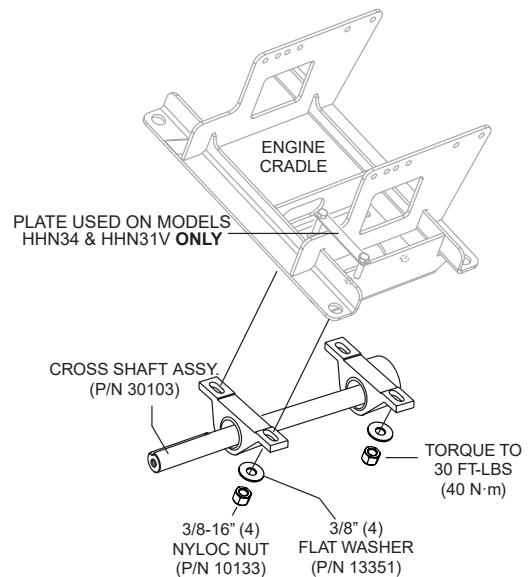

Figure 9. Cross Shaft Installation
4. Using a 3/8" ratchet with a 9/16" socket, install *new* cross shaft assembly (Figure 9), P/N 30103, with existing hardware (four 3/8-16 nyloc nuts and four 3/8" flat washers) onto engine cradle.